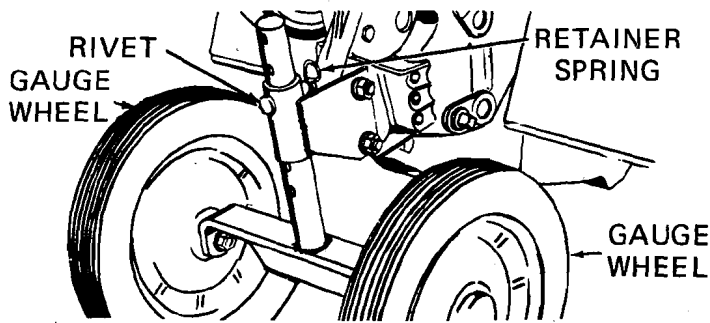

FIG. 8
1. The tilling depth is controlled by the gauge wheels shown above and to some extent by the adjusting screw and handle. Refer to Figure 8. When deeper tilling is required, the gauge wheels must be raised. Wheels must be lowered for shallower tilling. Remove retainer spring from drilled rivet. Adjust gauge wheels up or down as desired and replace rivet and retainer spring.